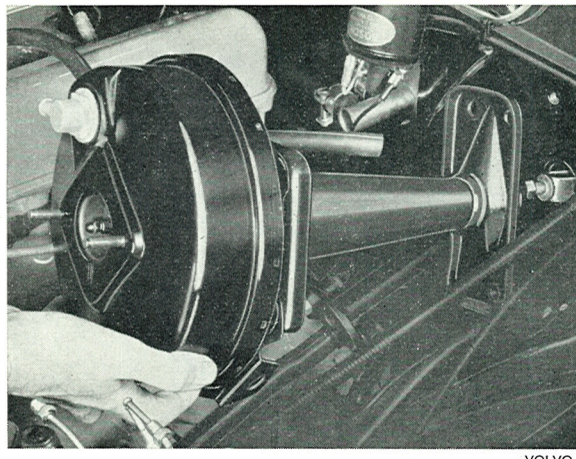

Fig. 5-76. Removing the servo cylinder
4. Remove the attaching screws for the bracket and lift the servo cylinder forwards, see Fig. 5-76.